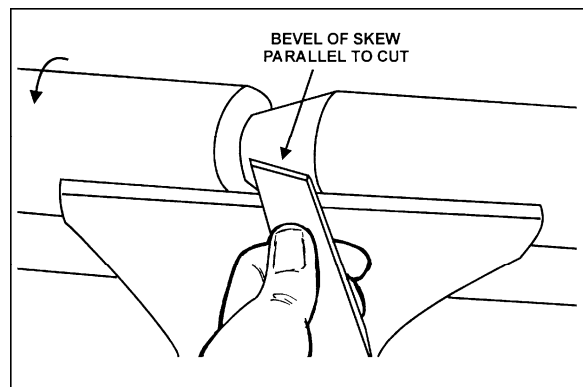

Figure 28
4. With the bevel parallel to the right side of the cut, raise the handle and push the tool in to the desired depth, as shown in Figure 28.